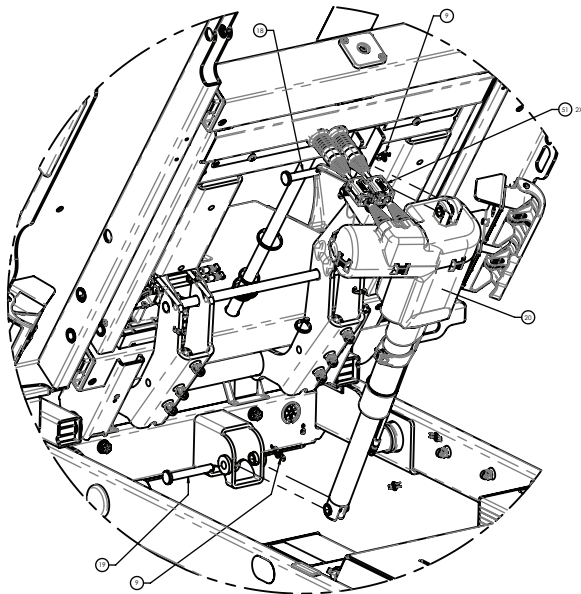

Figure 28 – Fowler actuator replacement
8. Using needle nose pliers, remove both ring retaining clips (9) from the clevis pins (18, 19) that attach the actuator (20) to the litter weldment and Fowler weldment (Figure 28).
9. While supporting the actuator (20) with one hand, remove the head end clevis pin (18) and then lower the actuator down (Figure 28).
14. While supporting the actuator (20) with one hand, remove the foot end clevis pin (19) and then lower the actuator down (Figure 28).